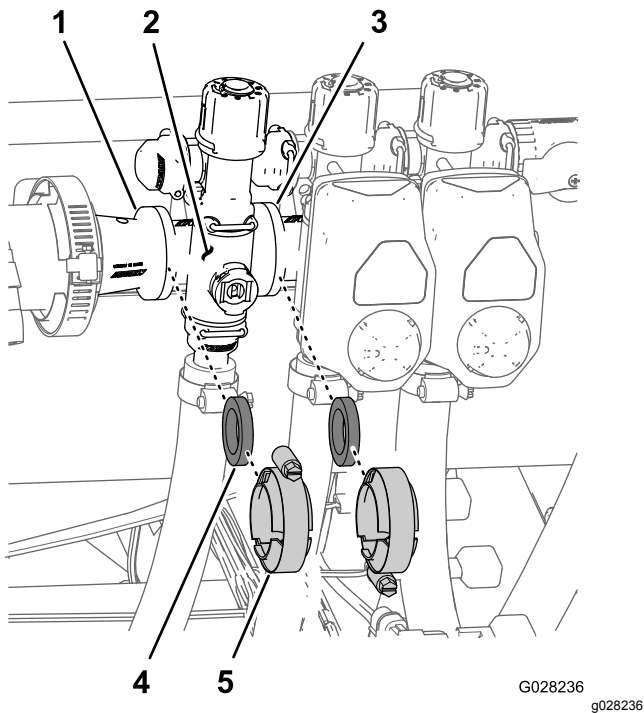

Figure 104
1. Remove clamps and gaskets that secure the manifold for the section valve (Figure 104) to the adjacent section valve (if left section valve, and the reducer coupling).